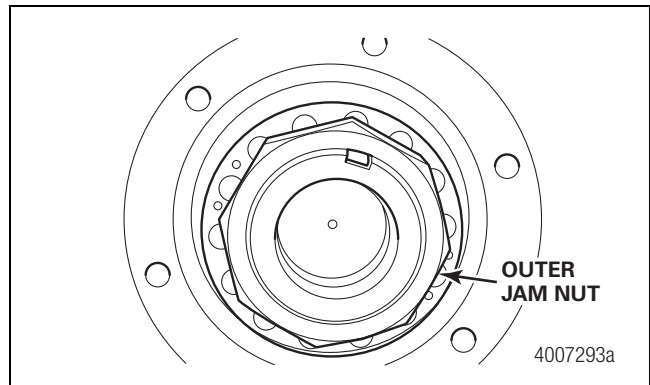

Figure 7
- B. Use a 3-1/4-inch socket to remove the outer jam nut. Figure 7.